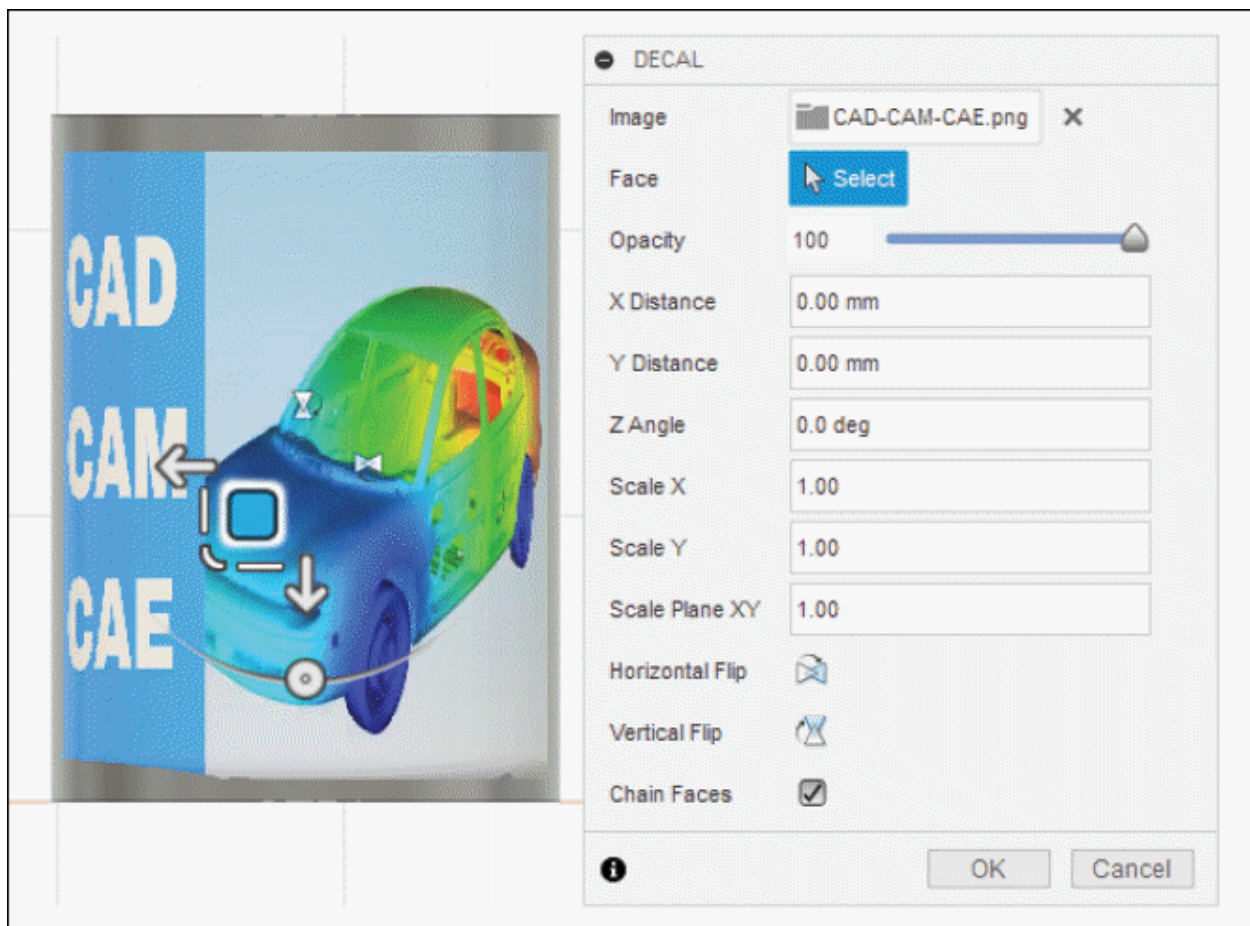

Figure-10. Preview of image on model
- After specifying the parameters, the preview of model along with image will be displayed; refer to Figure-10.